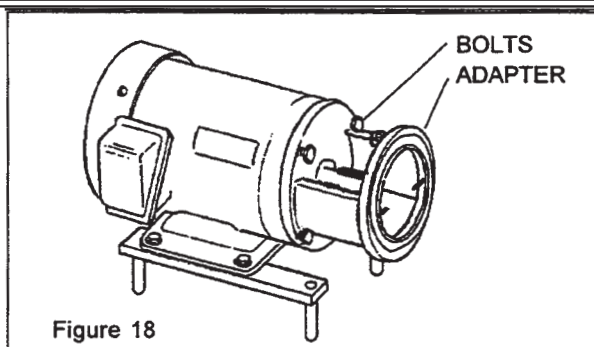

Figure 18
- Remove the bolts that secure the adapter to the motor frame and remove the adapter. (Figure 18)